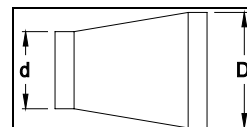

Figure 1
*Reducer or increaser ratio (d/D) small diameter divided reducer ratio is $d/D = 4/8 = 1/2$. To estimate the equivalent foot length for the fitting, use the smaller pipe diameter for the equivalent length figure. Example 4" to 8" reducer; the reducer ratio is 1/2 and the smaller pipe diameter is 4". So, from the chart, the equivalent feet would be 7 feet. (See Figure 1)